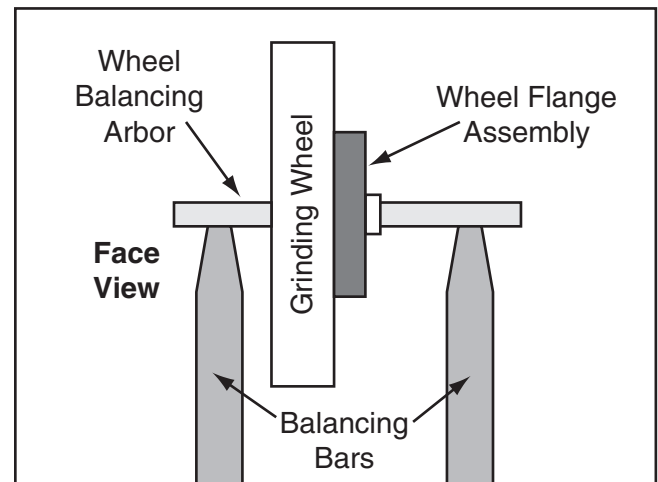

Figure 22. Side illustration of a typical wheel balancing setup.
You will need two metal bars of equal sizes with top edges that are as thin as possible (see **Figure 22** for an example), which will be used as a platform for the wheel.
4. Insert the balancing arbor into the wheel flange center, place the wheel on the balancing bars so that the arbor extends equally over the bars, as shown in **Figure 22**.